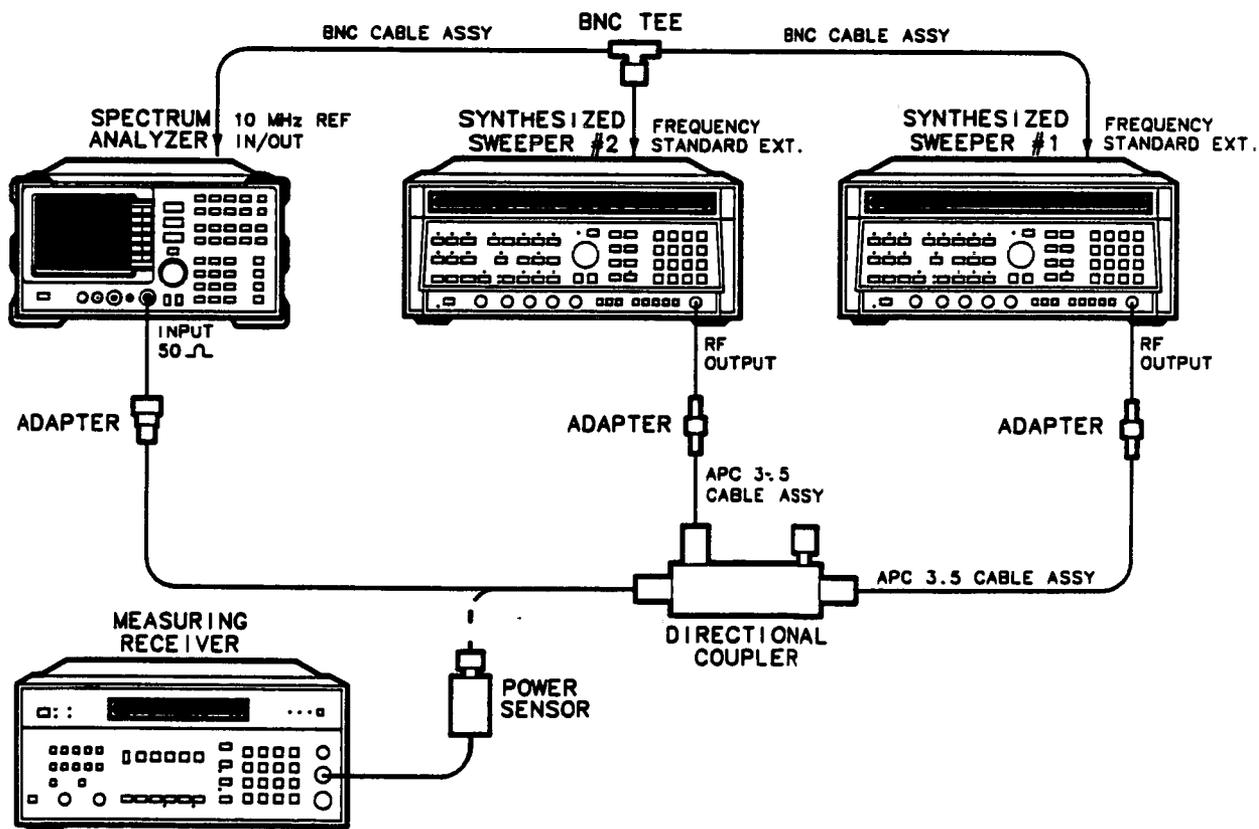

Figure 3-20. Third Order Intermodulation Test Setup
1. Connect the equipment as shown in Figure 3-20.